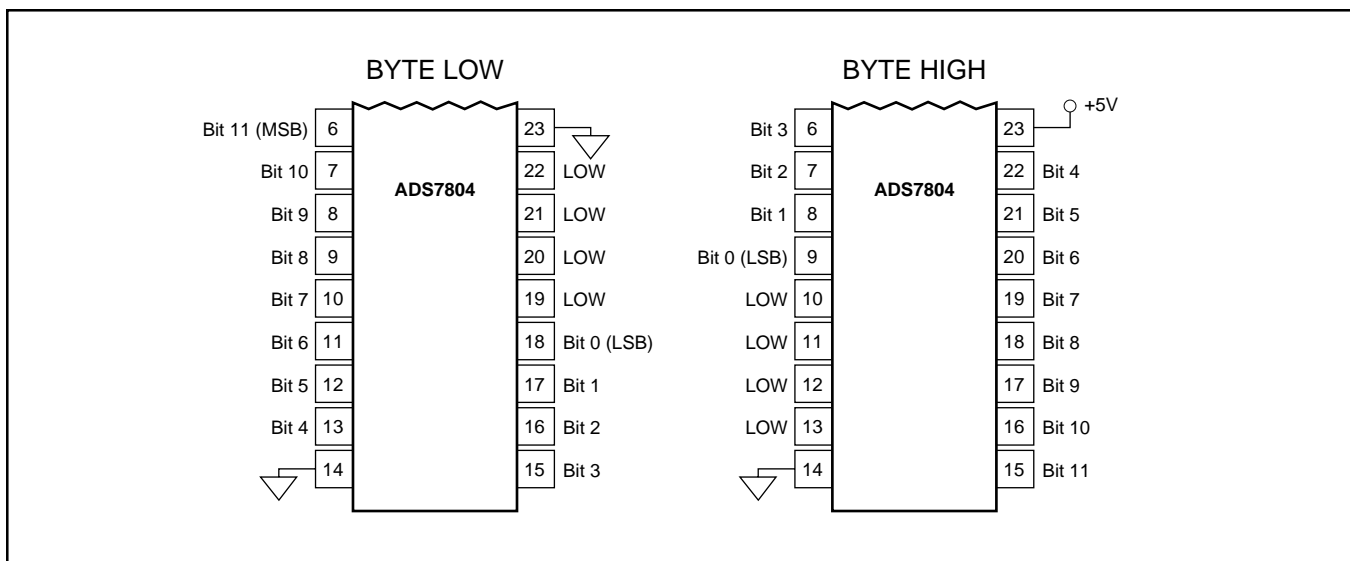

FIGURE 2. Bit Locations Relative to State of BYTE (pin 23).
NOTE: (1) See Figures 2 and 3 for constraints on data valid from conversion "n-1".
The ADS7804 outputs full or byte-reading parallel data in Binary Two's Complement data output format. The parallel output will be active when $\overline{R/C}$ (pin 24) is HIGH and \overline{CS} (pin 25) is LOW. Any other combination of \overline{CS} and $\overline{R/C}$ will tri-state the parallel output. Valid conversion data can be read in a full parallel, 12-bit word or two 8-bit bytes on pins 6-13 and pins 15-22. BYTE (pin 23) can be toggled to read both bytes within one conversion cycle. Refer to Table III for ideal output codes and Figure 2 for bit locations relative to the state of BYTE.